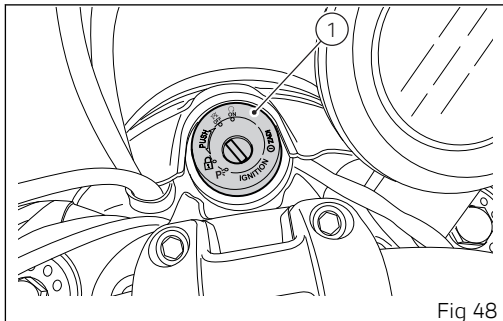

Fig 48
Move the ignition switch to (1, Fig 48). Make sure both the green light N (A) and the red light  (B) on the instrument panel come on.